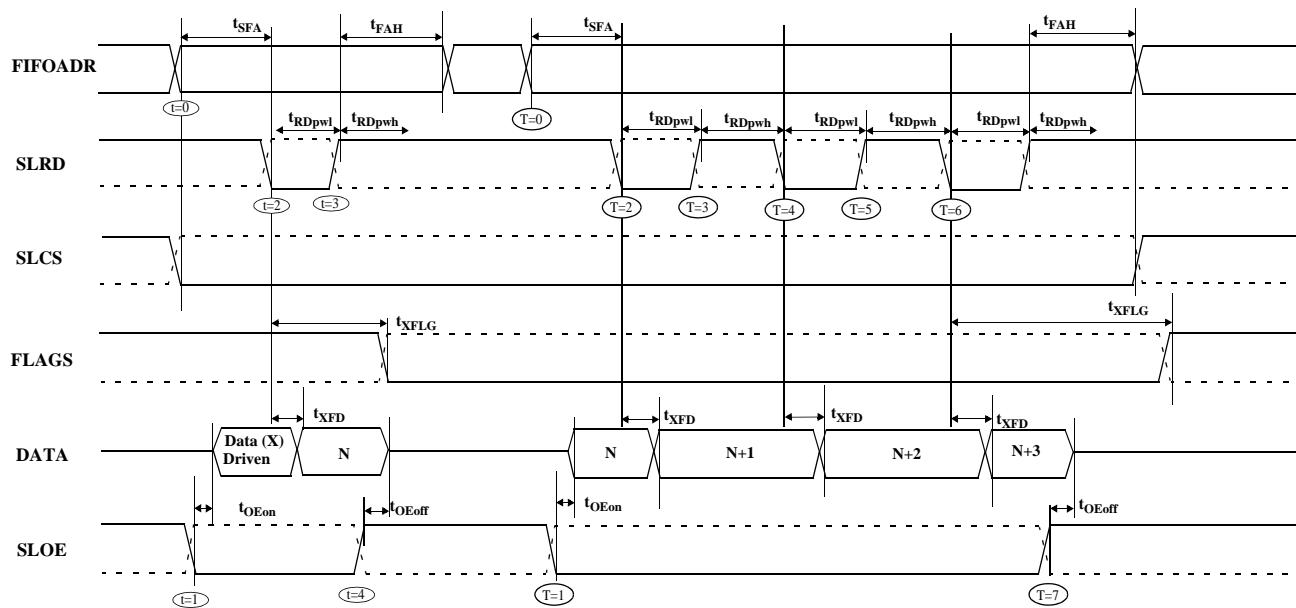

Figure 9-18. Slave FIFO Asynchronous Read Sequence and Timing Diagram
Figure 9-18 diagrams the timing relationship of the SLAVE FIFO signals during an asynchronous FIFO read. It shows a single read followed by a burst read.
- The data that will be driven, after asserting SLRD, is the updated data from the FIFO. This data is valid after a propagation delay of t_{XFID} from the activating edge of SLRD. In Figure 9-18, data N is the first valid data read from the FIFO. For data to appear on the data bus during the read cycle (i.e. SLRD is asserted), SLOE MUST be in an asserted state. SLRD and SLOE can also be tied together.